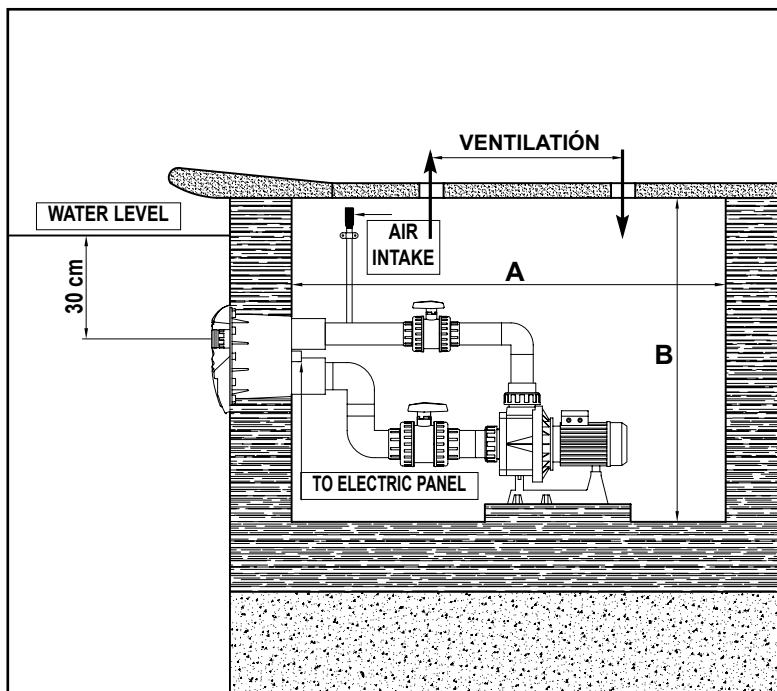

Fig. 8
10.1 Before installing the HIDROJET equipment it is necessary to take into account the dimensions of the housing in which it will be located. You should check to ensure that you will not have space problems when installing the pump. To do so, check the minimum clearances needed for the installation, as shown in the table and in Figure 8.